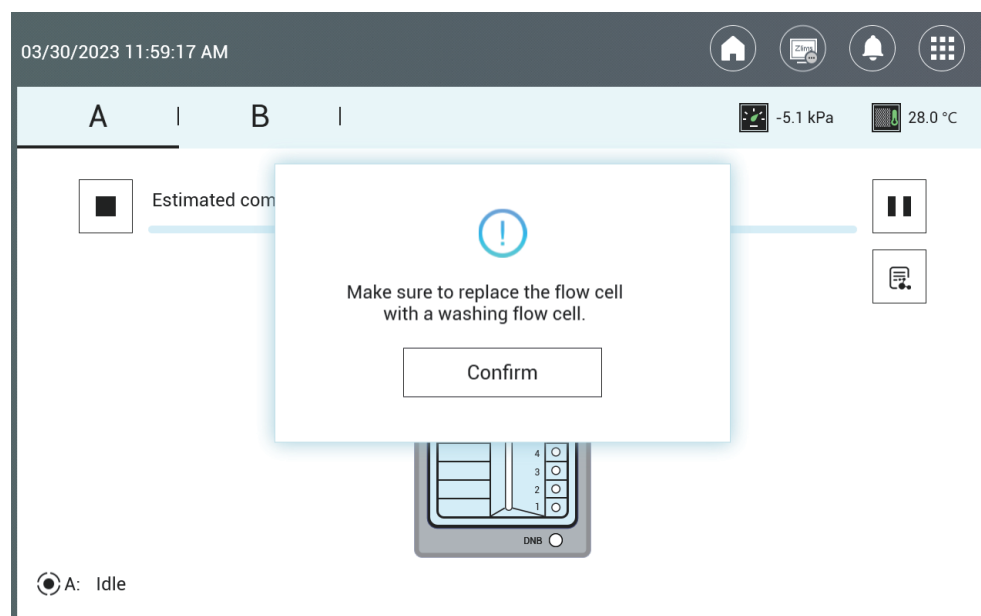

Figure 36 DL-T7RS flow cell loading complete status interface
- 16. The process takes around two hours. When the screen is shown as *Figure 36* on *Page 76*, the flow cell loading is complete.
- When the loading is complete, install the washing flow cell onto the flow cell stage and press the flow cell attachment button. Close the flow cell compartment door. Select **Confirm** as shown in *Figure 36 on Page 76*.